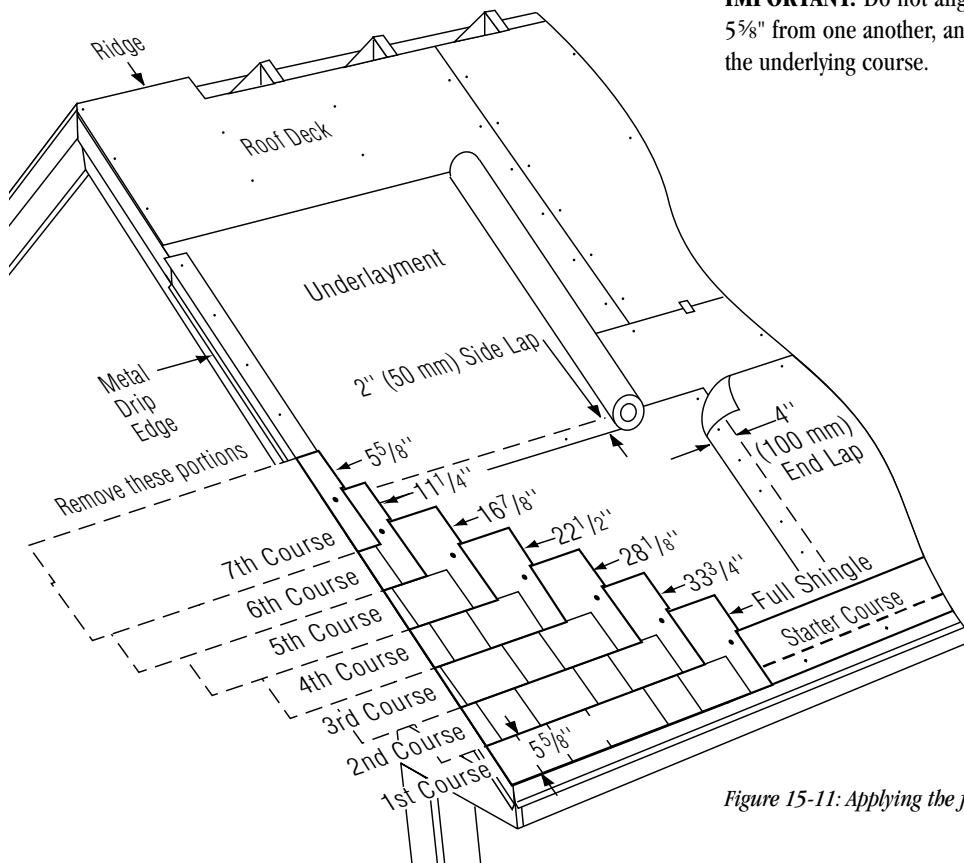

Figure 15-11: Applying the first 7 courses on a standard slope.
1. Cut $5\frac{5}{8}$ " off the left side of a shingle and install this $33\frac{3}{4}$ " piece over and above the first-course shingle, in line with the left edge of the starter course (Figure 15-11).
2. Cut $11\frac{1}{4}$ " off the first shingle of the third course, $16\frac{7}{8}$ " off the first shingle of the fourth course, $22\frac{1}{2}$ " off the first shingle on the fifth course, $28\frac{1}{8}$ " off the first shingle of the sixth course, and $33\frac{3}{4}$ " off the first shingle of the seventh course. Apply each with its left edge in line with the previous course (Figure 15-11).